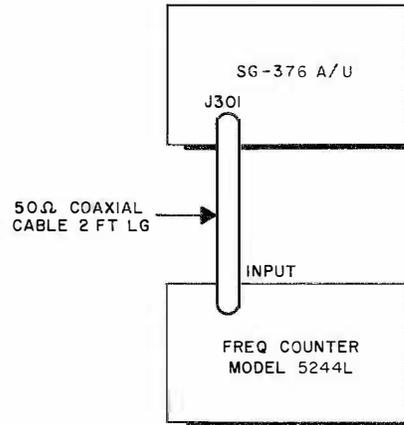

Figure 5-1. Set-up for A.F. Frequency Calibration Test, Connection Diagram
(1) TEST EQUIPMENT. - The following test equipment is required:
(2) FREQUENCY CALIBRATION ACCURACY. - Connect the equipments as shown in figure 5-1 and measure the frequency of the signal at A. F. OUTPUT jack, J301, with the Electronic Counter as prescribed below, recording the indicated results.